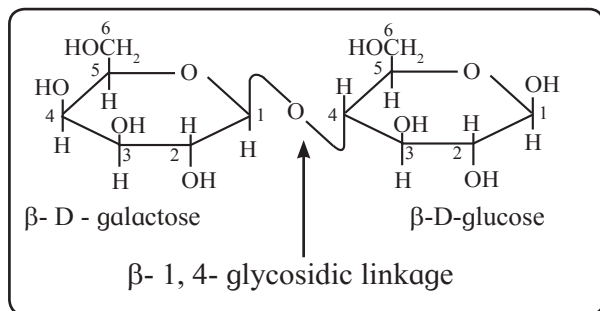

Fig. 14.10 : Haworth formula of lactose
c. Lactose : Lactose ($C_{12}H_{22}O_{11}$) is a disaccharide present in milk. It is formed from two monosaccharide units, namely D-galactose and D-glucose. The glycosidic linkage is formed between C-1 of β -D-galactose and C-4 of glucose. Therefore the linkage in lactose is called β -1,4-glycosidic linkage. The hemiacetal group at C-1 of the glucose unit is not involved in glycosidic linkage but is free. Hence lactose is a **reducing sugar**. Figure 14.10 shows Haworth formula of lactose.